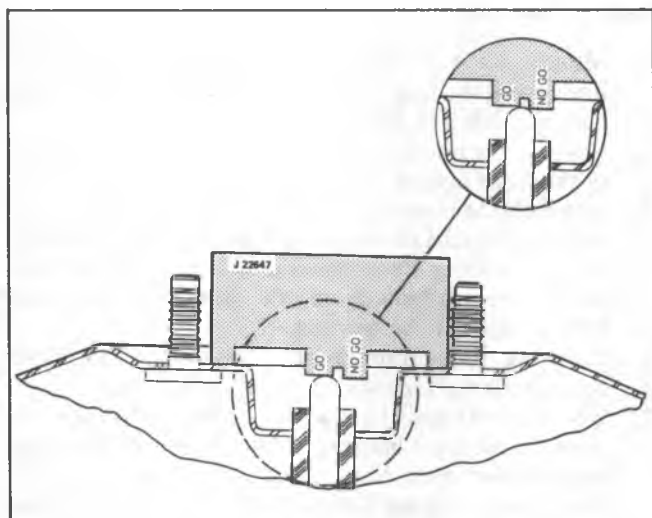

Fig. 15H--Gaging Piston Rod
4. Place Gage J-22647 over the piston rod in a position which will allow the gage to be slipped to the left or right without contacting the studs (fig. 15H).